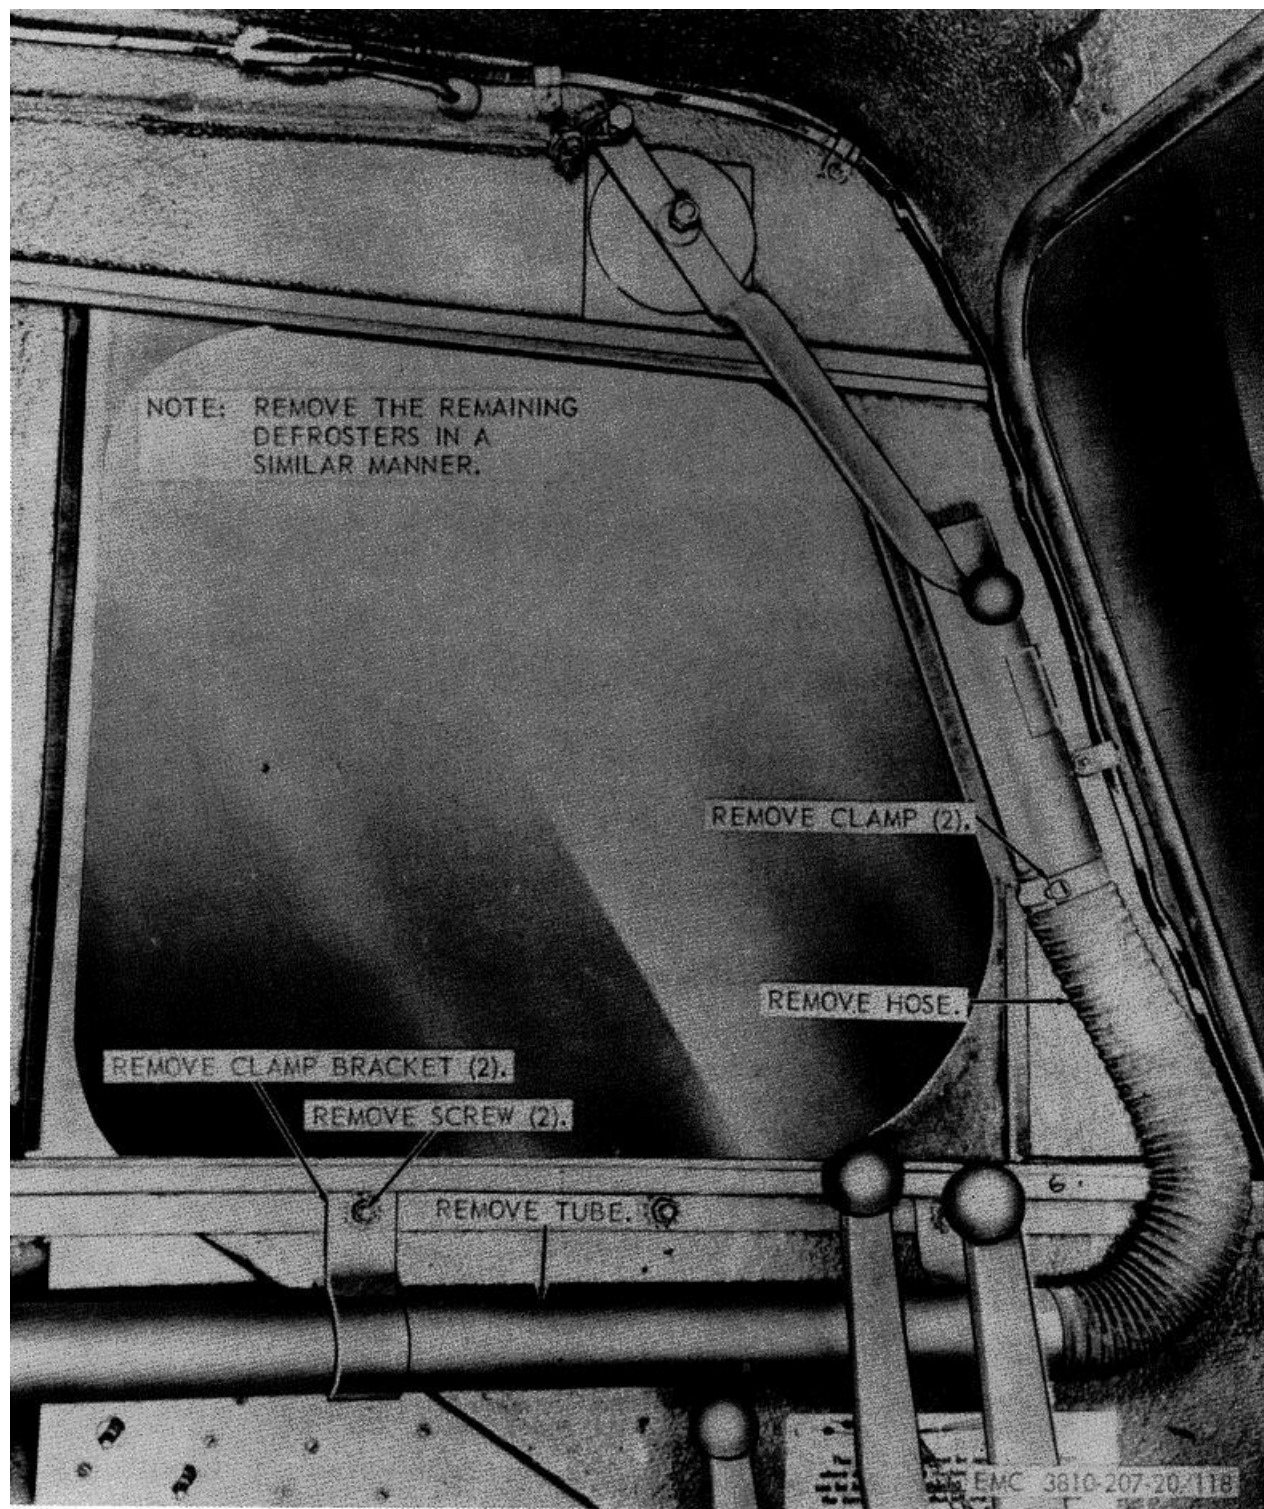

Figure 118. Defroster, removal and installation.
- (1) Remove hoses and clamps (par. 188).
- (2) Remove defrosters as instructed on figure 118.
- (1) Install the defrosters as illustrated on figure 118.
- (2) Install the hoses and clamps (par. 188).